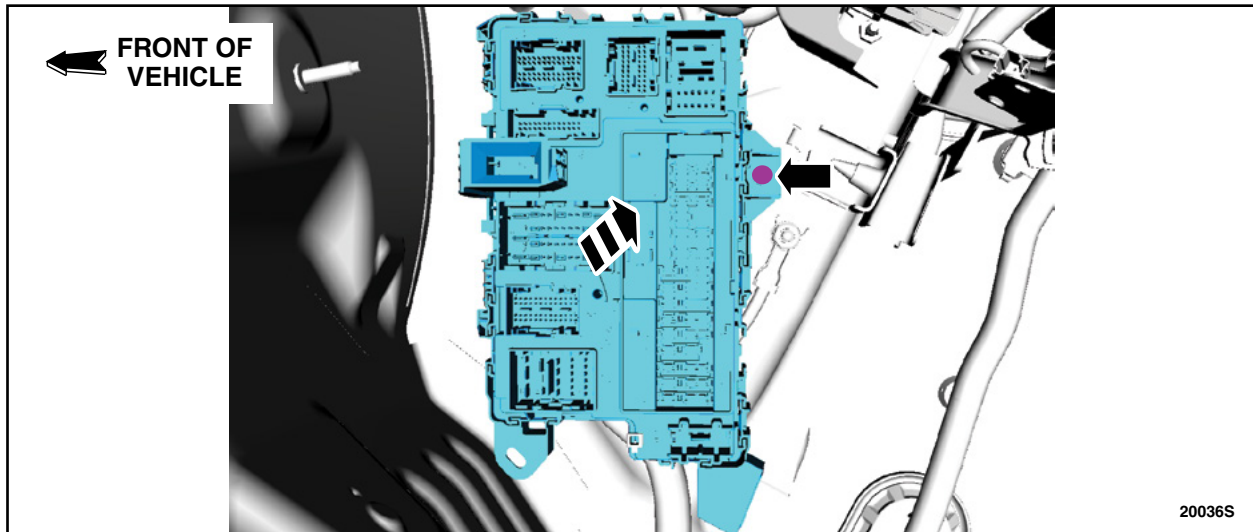

FIGURE 20
37. Install the BCM and retainer. See Figure 20.